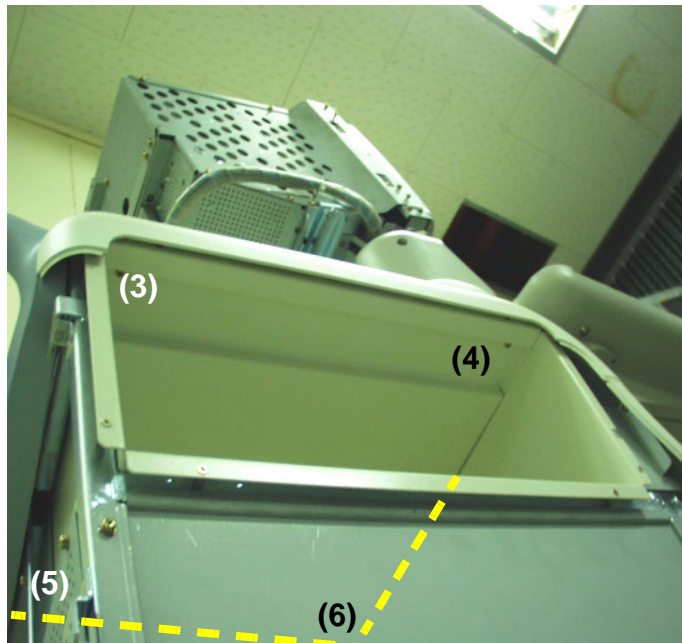

Figure 8-48 Unscrew 4 screws from the bottom
5.) Unscrew four screws (3-6) from the bottom of the Top cover. Refer to Figure 8-48.